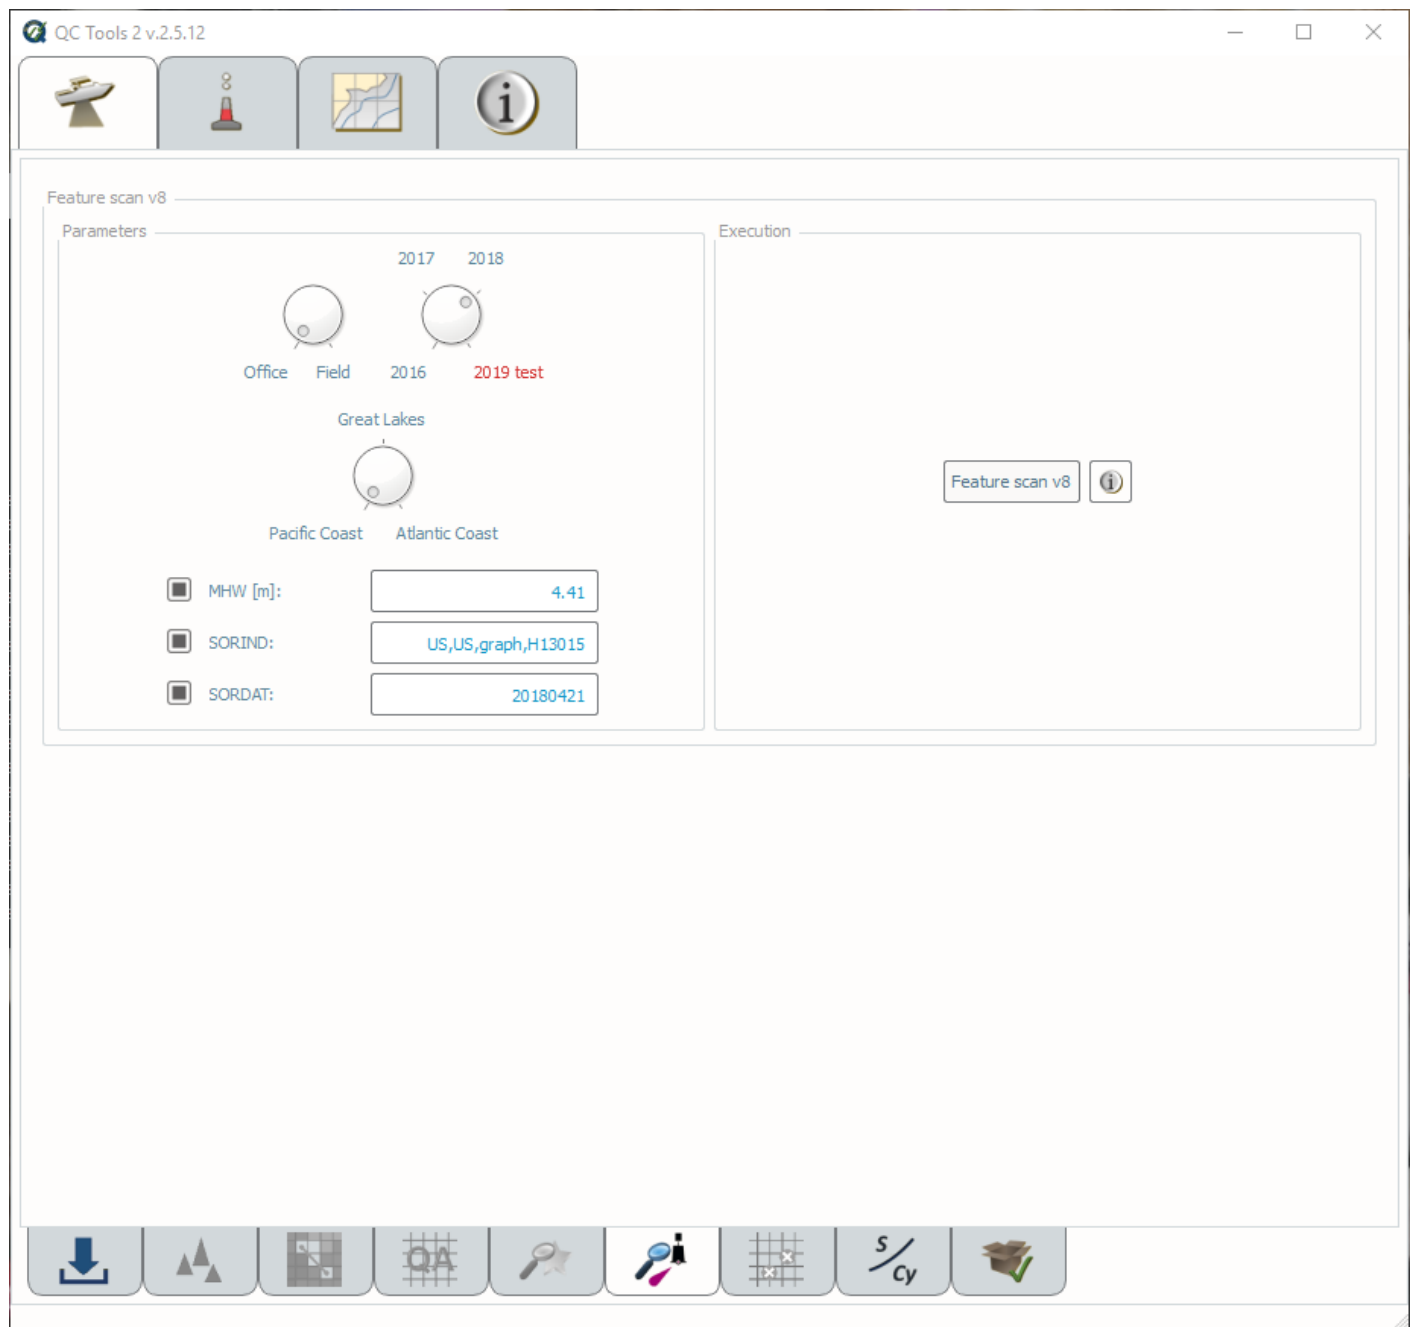

Fig. 2.25: The Scan features tab.
- Select the **Scan features** tab (Fig. 2.25) on the bottom of the QC Tools interface.